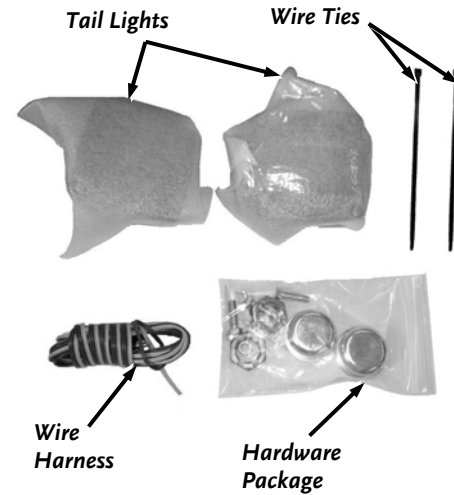

Figure 50
- Parts Box containing (Items below and **Figure 50**):